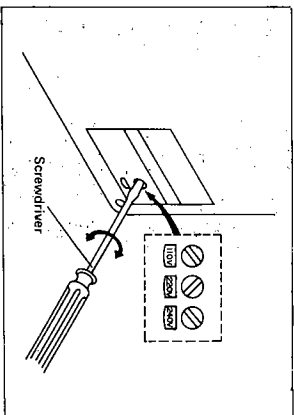

Figure 13
- Before operating the unit on mains, check the pre-set voltage. If the voltage is different from your local voltage, adjust the voltage as follows: Rotate the plug of the voltage selector by using a screwdriver so that your local voltage can be seen. (Refer to Figure 13)